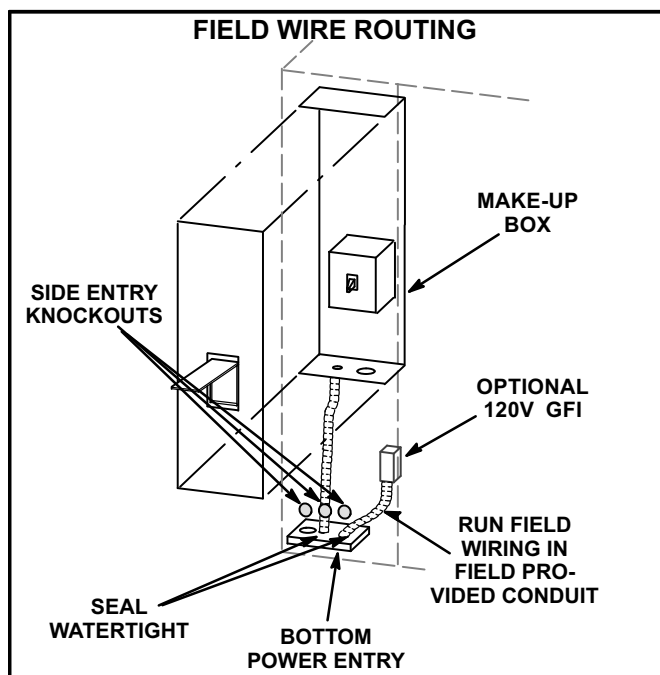

FIGURE 14
Route field wiring in conduit between bottom power entry disconnect. See figure 14. This does not supersede local codes or authorities having jurisdiction.
- 3- Connect separate 120v wiring to optional field-powered GFCI outlet. Route field wiring in conduit between bottom power entry and GFCI. See figure 14. For unit-powered GFCI, no additional field wiring is required.